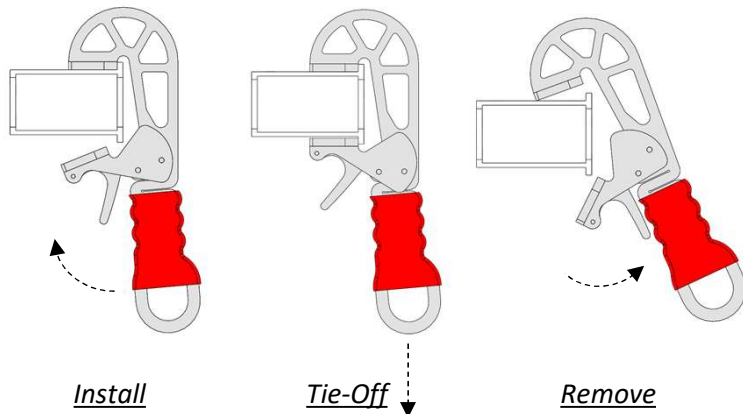

Figure 3. Personal Tie-Off Lanyard Device Installation, Tie-Off & Removal Sequence
- To remove the Personal Tie-Off Lanyard Device from a panel rail, the safety trigger must be engaged first in order to lower the bottom plate. Subsequently, the user must swing the handle upward to free up the device, before it is reattached to the next location. (See Figure 3 for Personal Tie-Off Lanyard Device Installation, Tie-Off and Removal Sequence)